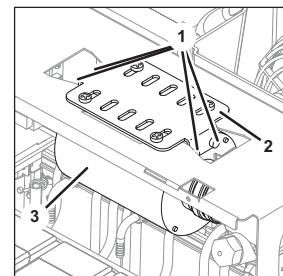
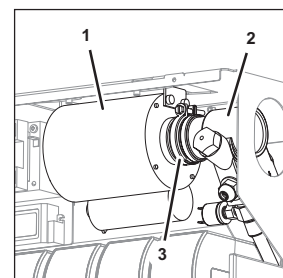

Fig. 50
Fig. 51
2. Remove the fastening bolts (Fig. 51/1) of the carbonator pump motor mount (Fig. 51/2) from the carbonator pump motor (Fig. 50/3).
3. Remove the clamp (Fig. 51/3).
4. Disconnect the carbonator pump motor (Fig. 51/1) from the carbonator pump (Fig. 51/2).
5. Lift the carbonator pump motor (Fig. 51/1) out of the unit.
6. Position the new carbonator pump motor (Fig. 51/1) on the carbonator pump (Fig. 51/2).
7. Attach the carbonator pump motor (Fig. 51/1) to the carbonator pump (Fig. 51/2) with the clamp (Fig. 51/3).
8. Attach the carbonator pump motor (Fig. 51/1) to the carbonator pump motor mount (Fig. 50/2) using the fastening bolts (Fig. 50/1).